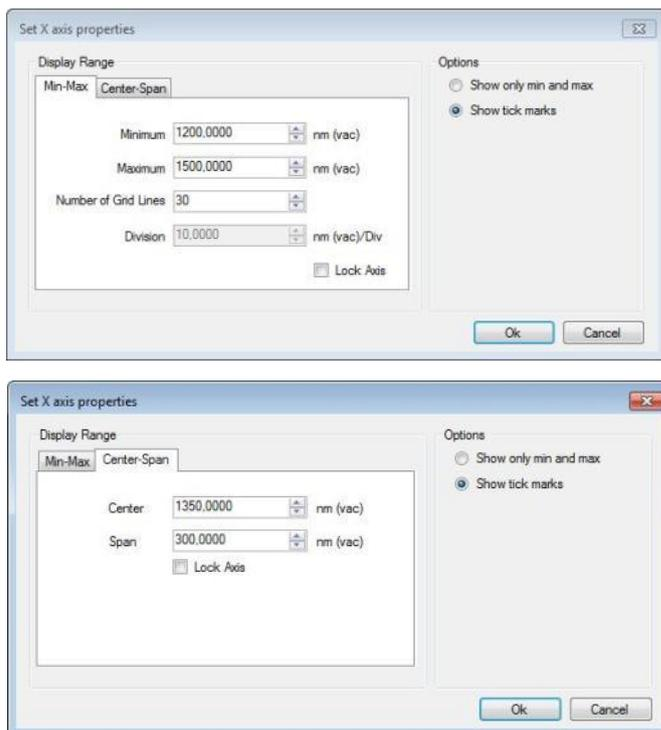

Figure 16 Axis Options Dialog Opened for the Horizontal Axis
The vertical axis can be set manually by clicking on the (primary or secondary) vertical axis itself. This will bring up a dialog box, (shown in Figure 16) in which the minimum and maximum value, division, center wavelength and span can be set.
- The range of the primary and secondary axis can be set individually by clicking on (the gray part of the) axis which brings up the Axis Options Dialog (see Figure 16) for the selected axis notice that the grid density is always the same for the primary and the secondary axis. Changing the grid density on one axis will change the grid density on the other.
- The primary and secondary axes can be locked individually to any desired range by checking the “Lock Axis” check box in the Axis Options Dialog (see Figure 16).